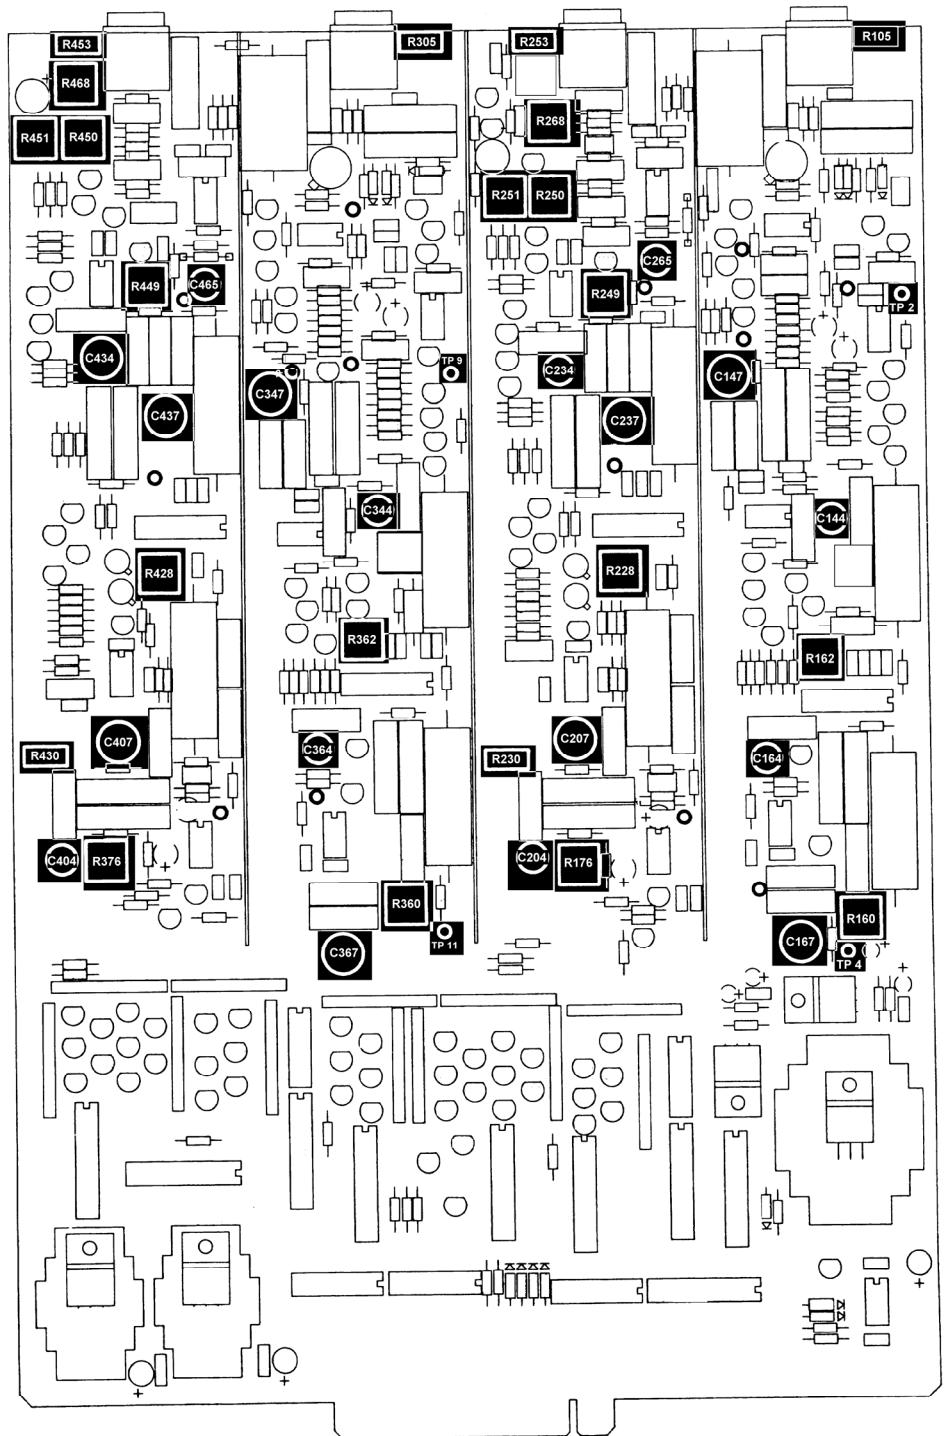

Figure 2. Motherboard.
- h. Connect true rms voltmeter to test point TP 4 (fig. 2) and chassis ground.
- j. Alternate calibrator and TI frequencies between 25.6 kHz and 175 kHz using technique of f above to enter TI frequency. Adjust C167 (fig. 2) for a -5.33 dB true rms voltmeter indication or split the difference between the two readings.
- k. Connect true rms voltmeter to TP 2 (fig. 2) and chassis ground.
- l. Alternate calibrator and TI frequencies between 25.6 kHz and 175 kHz using technique of f above to enter TI frequency. Adjust C147 (fig. 2) for a -5.33 dB true rms voltmeter indication or split the difference between the two readings.
- n. Press corresponding keys as listed in (1) through (5) below and verify **CUTOFF FREQUENCY** indicates **2.100**.
- (1) **2** data entry key.
- (2) **.** data entry key.
- (3) **1** data entry key.
- (4) **KILO** parameter key.
- (5) **FREQ** parameter key.
- o. Alternate between TP 2 and TP 4. Adjust R162 (fig. 2) for a -5.33 dB true rms voltmeter indication or split the difference between the two test point readings.
- p. Connect true rms voltmeter to test point TP 4 (fig. 2) and chassis ground.
- q. Press corresponding keys as listed in (1) through (5) below and verify **CUTOFF FREQUENCY** indicates **256.0**.
- (2) **5** data entry key.
- (3) **6** data entry key.
- r. Adjust calibrator for a 256 kHz, 1 V output. If true rms voltmeter does not indicate -5.33 dB, adjust C164 (fig. 2) until true rms voltmeter indicates -5.33 dB.
- t. Connect true rms voltmeter to test point TP 2 (fig. 2) and chassis ground. If true rms voltmeter does not indicate -5.33 dB, adjust C144 (fig. 2) until true rms voltmeter indicates -5.33 dB.
- v. Connect true rms voltmeter to test point TP 4 (fig. 2) and chassis ground.
- w. Alternate calibrator and TI frequencies between 25 kHz and 250 kHz using technique of f above to enter TI frequency. Adjust R160 (fig. 2) for a -5.33 dB true rms voltmeter indication or split the difference between the two readings.
- d. Press corresponding keys as listed in (1) through (4) below and verify **CUTOFF FREQUENCY** indicates **25.00**.
- (3) **KILO** parameter key.
- (4) **FREQ** parameter key.
- f. Press **MODE** parameter key until **CUTOFF FREQUENCY** display indicates **L.P.** If true rms voltmeter does not indicate 0 dB,  $\pm 0.01$  dB, adjust R250 (fig. 2) until true rms voltmeter indicates 0 dB,  $\pm 0.01$  dB.
- g. Press corresponding keys as listed in (1) through (4) below and verify **CUTOFF FREQUENCY** indicates **256.0**.
- j. Press **MODE** parameter key until **CUTOFF FREQUENCY** display indicates **h.P.** If true rms voltmeter does not indicate 0 dB,  $\pm 0.01$  dB, adjust R251 (fig. 2) until true rms voltmeter indicates 0 dB,  $\pm 0.01$  dB.
- b. Press corresponding keys as listed in (1) through (3) below and verify **CUTOFF FREQUENCY** indicates **2.000**.
- (2) **KILO** parameter key.
- (3) **FREQ** parameter key.
**e.** Adjust calibrator for a 2 MHz, 0.1 V output. If true rms voltmeter does not indicate 0 dB,  $\pm 0.01$  dB, adjust C265 (fig. 2) until true rms voltmeter indicates 0 dB,  $\pm 0.01$  dB, or as close to 0 db as possible.
**f** Press corresponding keys as listed in (1) through (5) below and verify **CUTOFF FREQUENCY** indicates **1.500**.